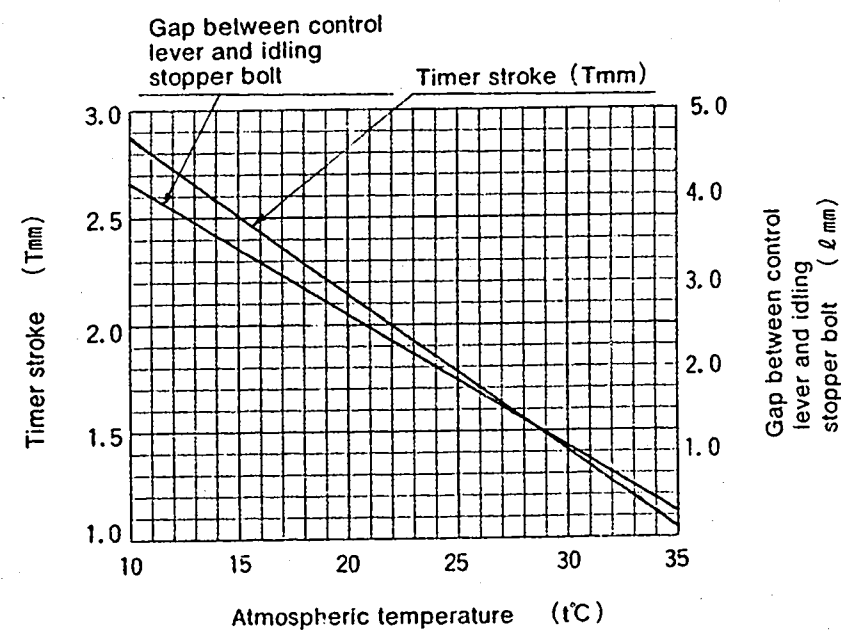

Fig. 2
1. Calculate the timer stroke from Fig. 2 according to the atmospheric temperature at the time of adjustment.
1. Calculate the block gauge dimension  $\ell \pm 0.05\text{mm}$  from Fig. 2 according to the atmospheric temperature at the time of adjustment.